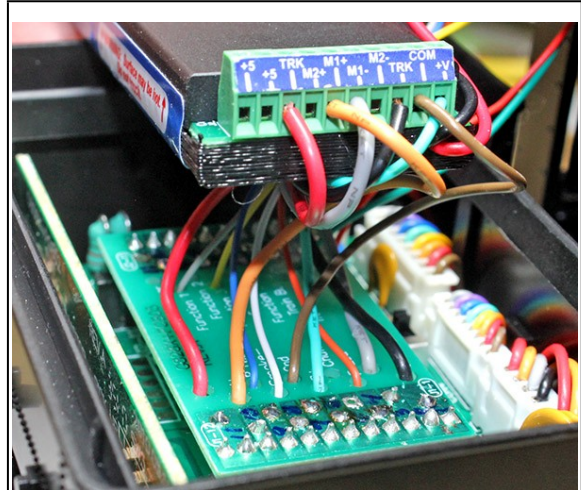

Fig. 9: Folding power wires under the loco module
- The loco module's screw terminals should be on the engineer's side of the bunker. Gently fold the wires soldered to J1 on the jumper board inward toward the center. Likewise, gently fold the six wires attached to the loco module's screw terminals down and under the module; see **Fig. 9**.